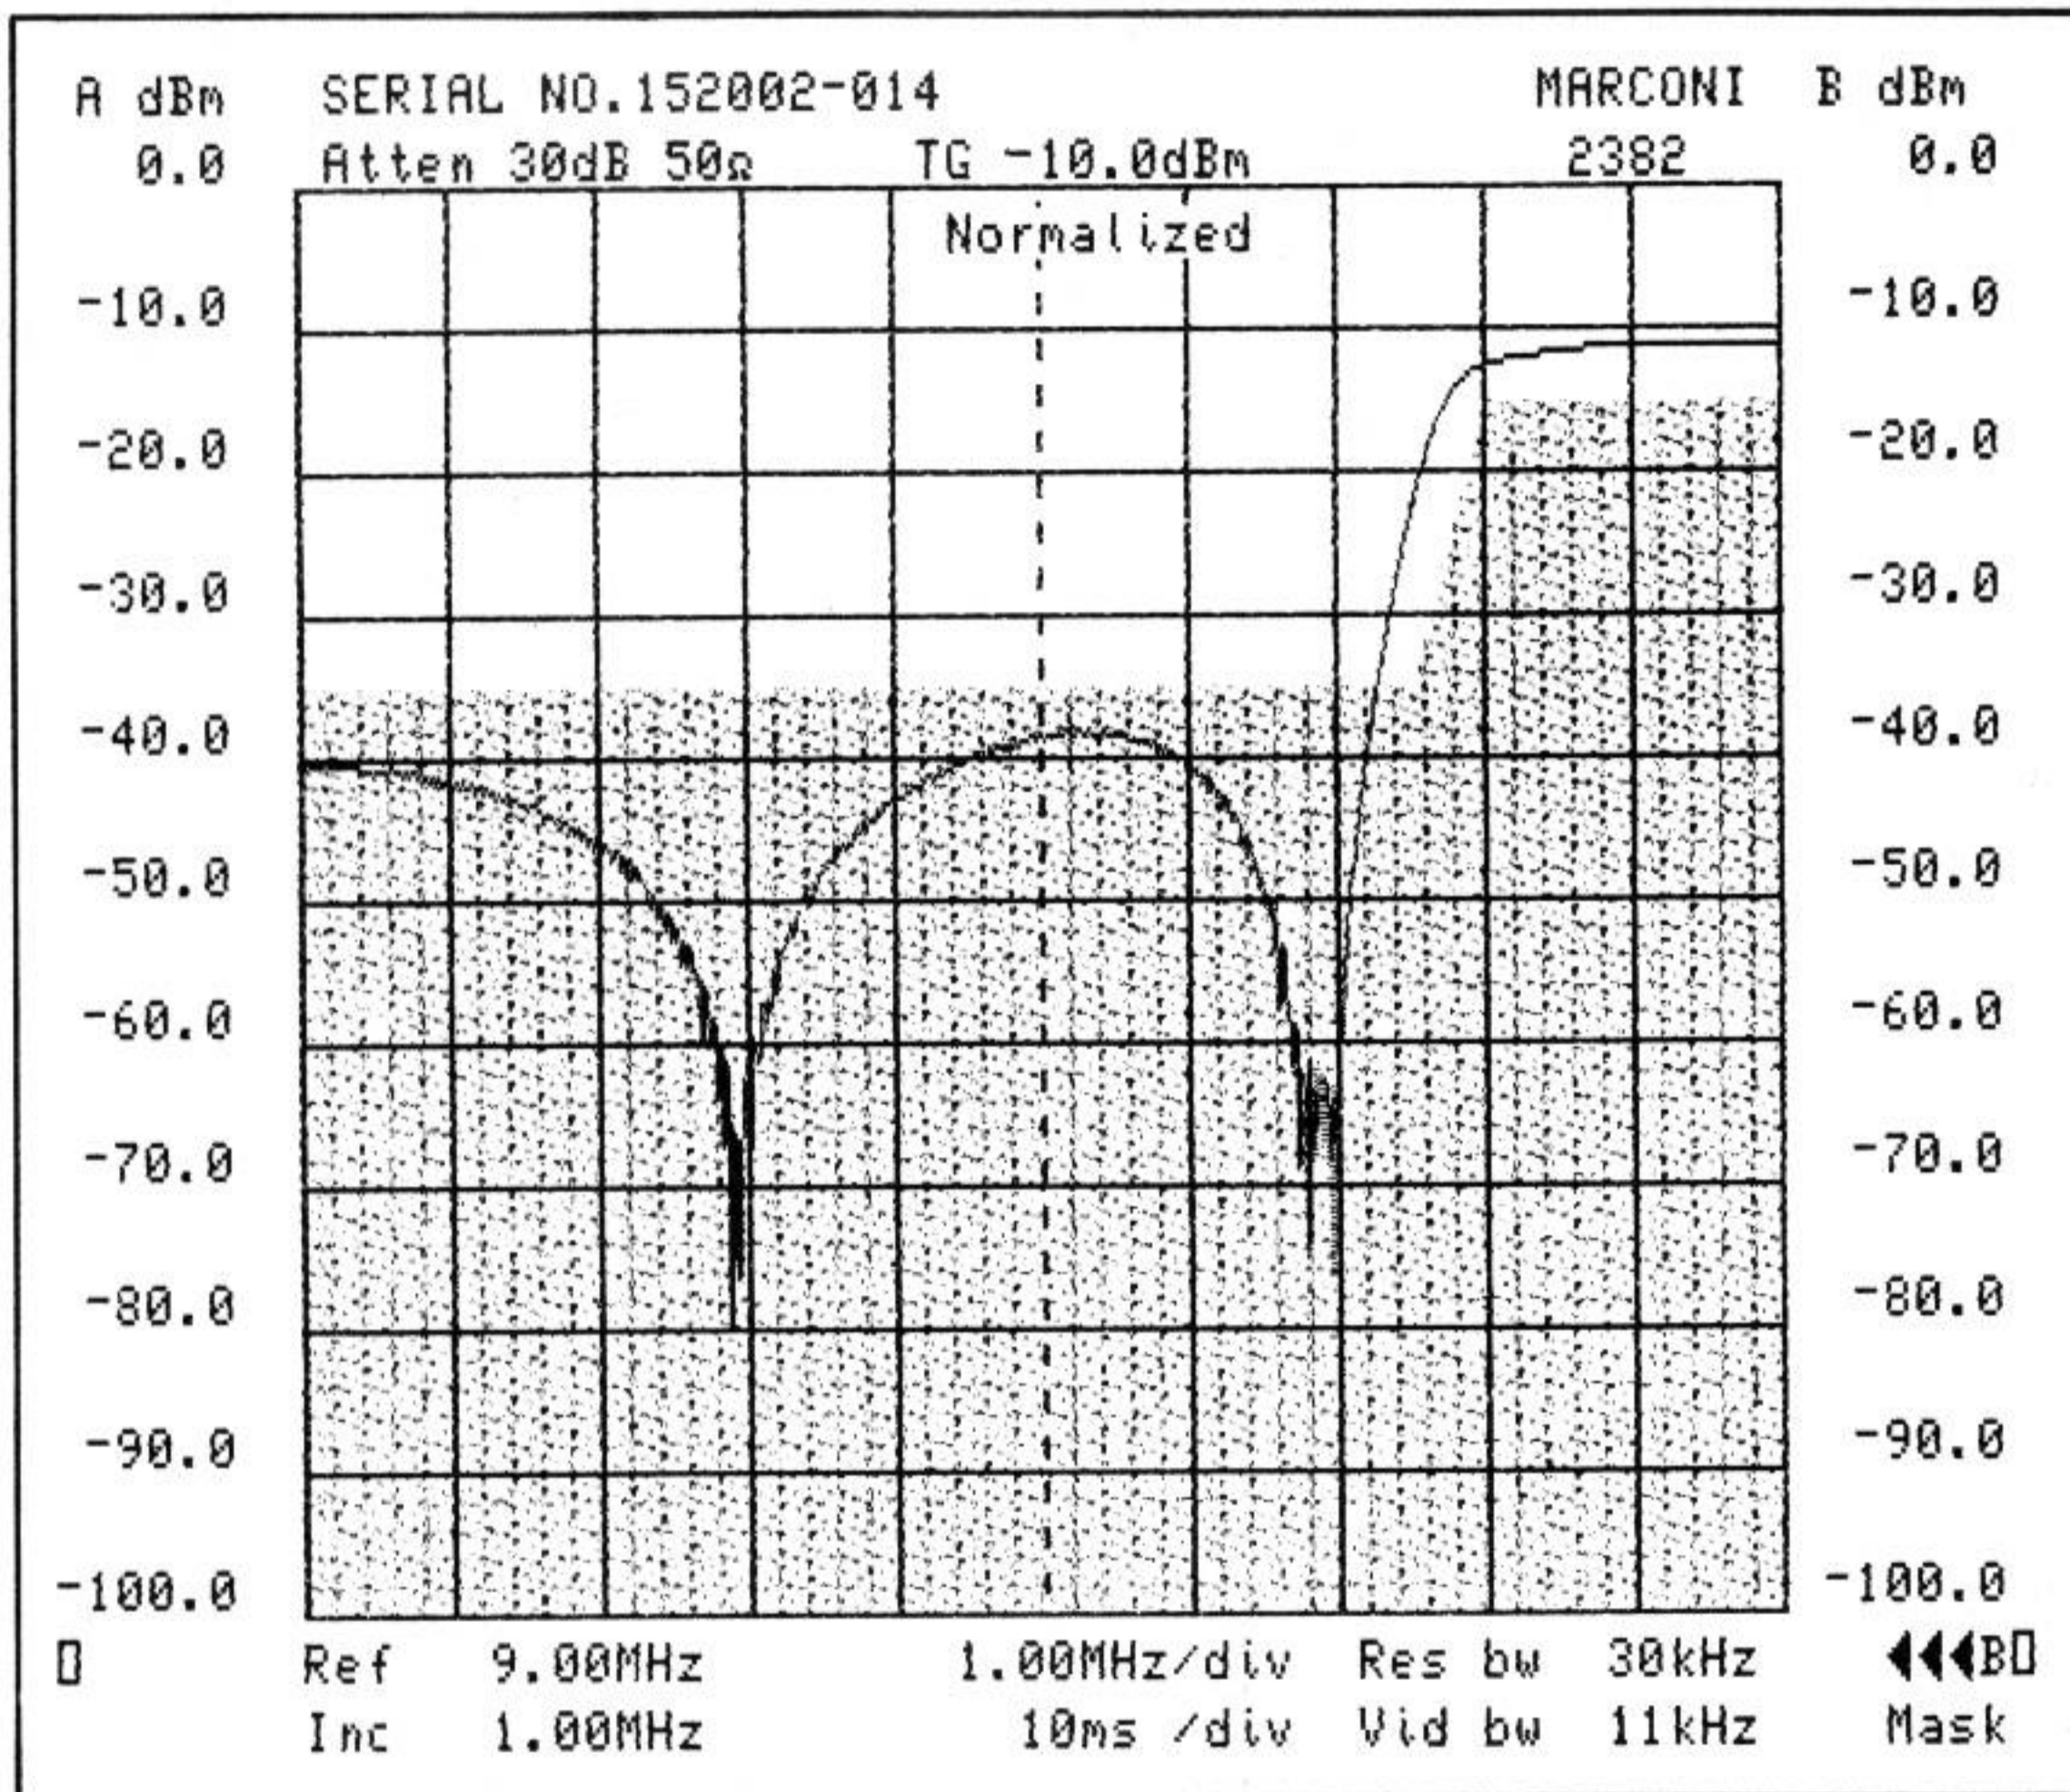

Fig. 19 Filter frequency response with limit mask
85. For the lower limit boundaries press DATA key 2 and again a maximum of eight levels and eight frequencies can be inserted. As the levels and frequencies are keyed in, the upper and lower profiles of the mask appear on the screen. Exit from the menus and press VIEW A.
86. The frequency response of the filter can now be compared with the go/no limits which are overlaid upon it (refer Fig. 19). Press 2ND FUNCT then VIEW B (INFILL) for an alternative display.